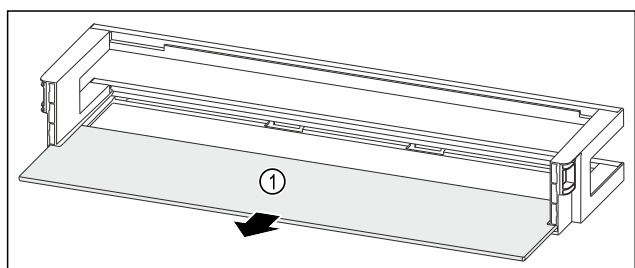

Fig. 115 Door rack with shelf
- Remove the shelf Fig. 115 (1).